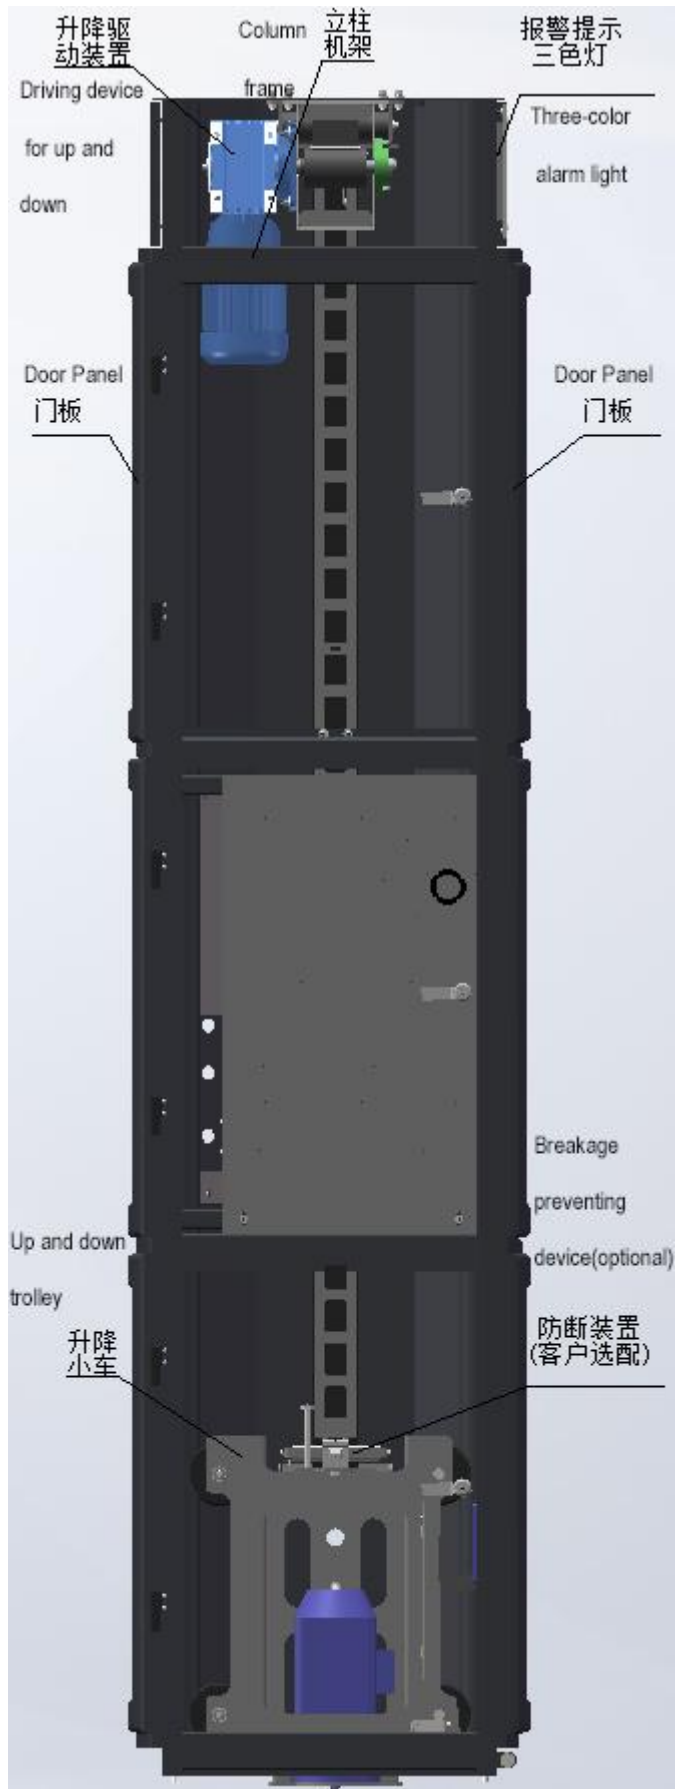

Figure 3.1.4 Anti-drop and rope system
5.The rope making and anti-drop system is located in the bottom of film carriage, the rope making system with automatic cutting film under the guidance of the CAM follow-up to make the rope, to ensure that the film wrapped goods closely and cutting of the film smoothly. (Figure 3.1.4)。
6.Anti-drop system: In the process of film carriage’s falling, if the bottom of film carriage is touched, the film carriage will immediately stop falling movement to protect the safety of the operator (Figure 3.1.4)